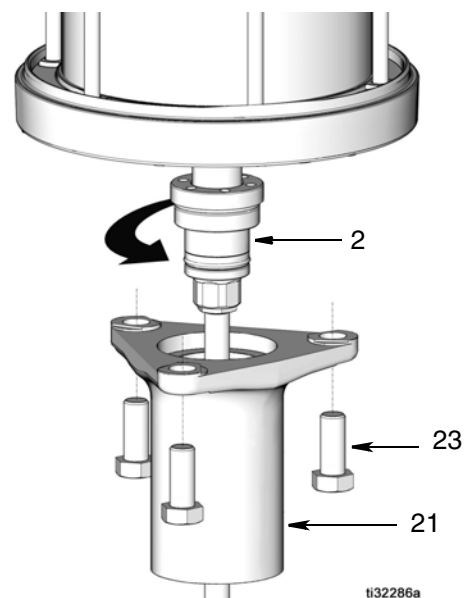

FIG. 8
- Unscrew bolts (23) that connect pump base (21) to the air motor (FIG. 8).
- Remove pump base (21) from air motor and unscrew packing gland (2) (FIG. 8).